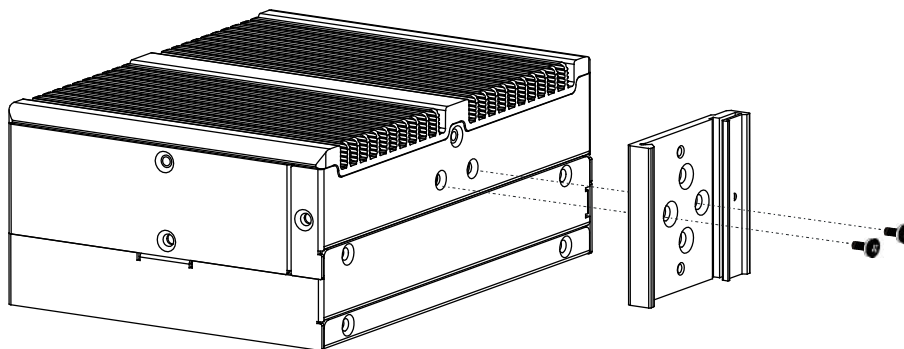

Figure 3-18: Mounting the DIN Rail
Step 1: Attach the DIN rail mounting bracket to the rear panel of the embedded system. Secure the bracket to the embedded system with the supplied retention screws (Figure 3-18).